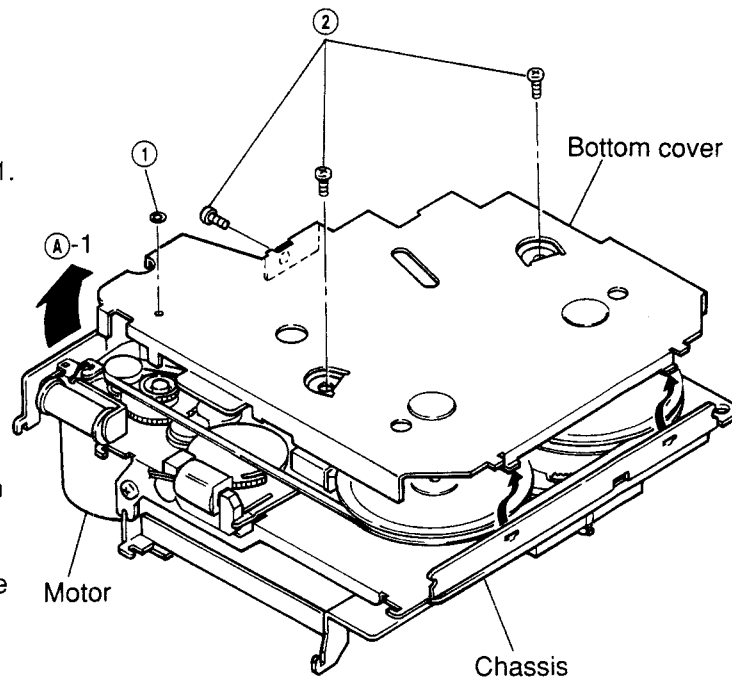

Figure 1
- (1) Turn the mechanism around as shown in Figure 1.
- (2) Remove M1 lock washer ① as shown in Figure 1.
- (3) Remove three screws ② as shown in Figure 1.
- (4) Lift the bottom cover slowly from the position ③-1, pull the hooks out of the holes in the chassis, and remove the bottom cover as shown in Figure 1.